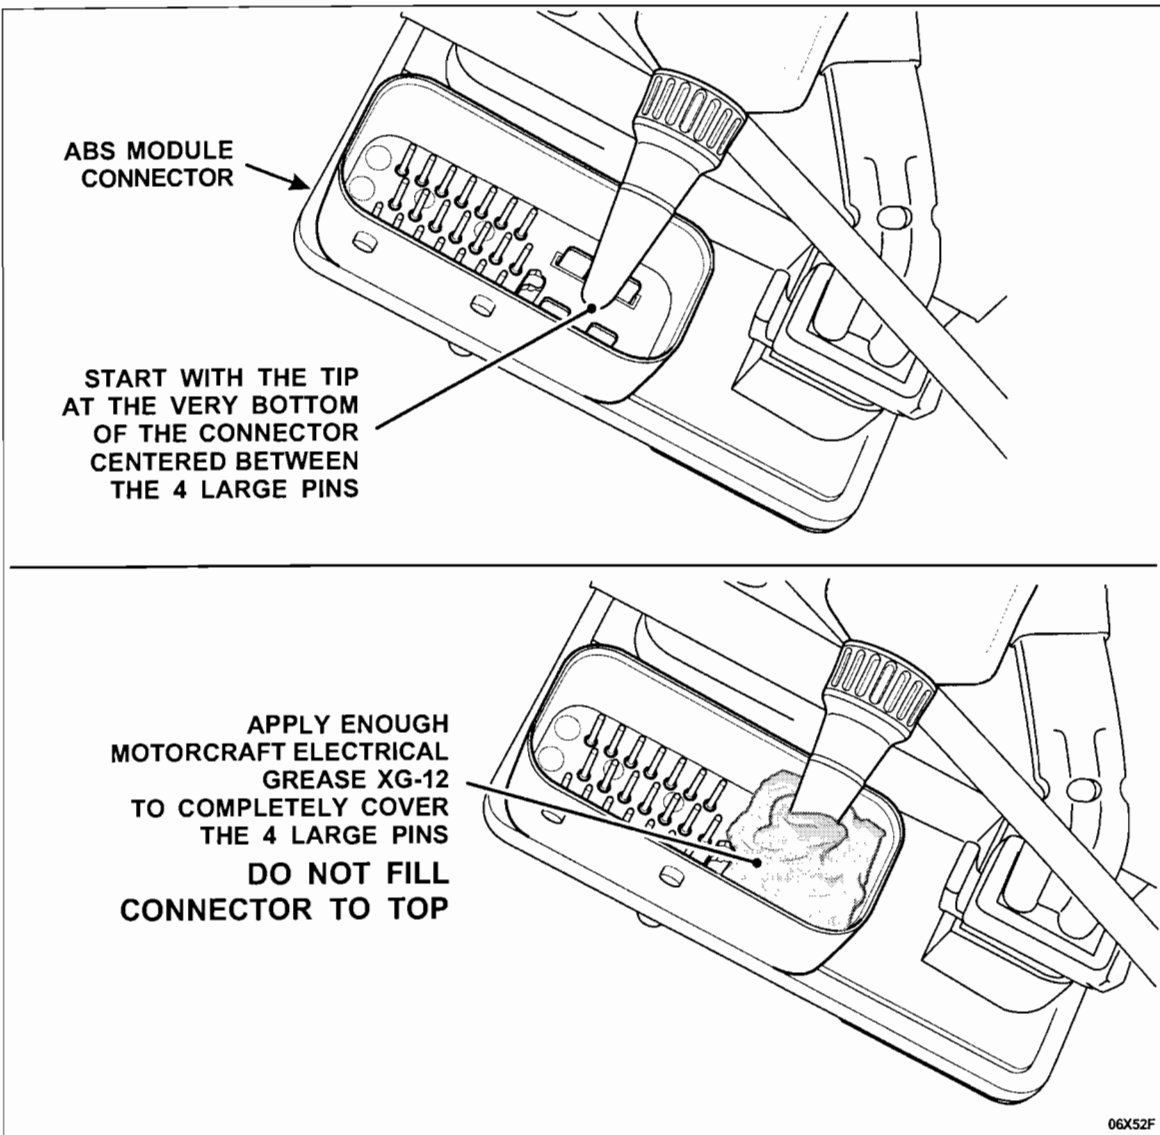

FIGURE 16
- b) Use ONLY Motorcraft Electrical Grease XG-12. See Figure 16.
- With the tip of the applicator tube snipped off, position the end of the tip between the 4 large flat pins at the bottom of the ABS module connector. Squeeze out enough grease to completely cover the 4 flat pins. See Figure 16. DO NOT spread the grease around the connector. Applying an excess amount of grease into the connector cavity will cause a "hydro lock" condition in which the connector will not be able to be seated fully or locked in place.